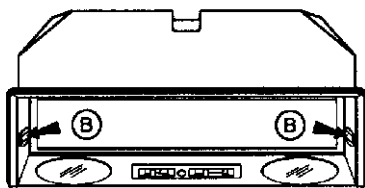

fig.3
- Remove the frame by pushing the buttons "B" Fig. 3.